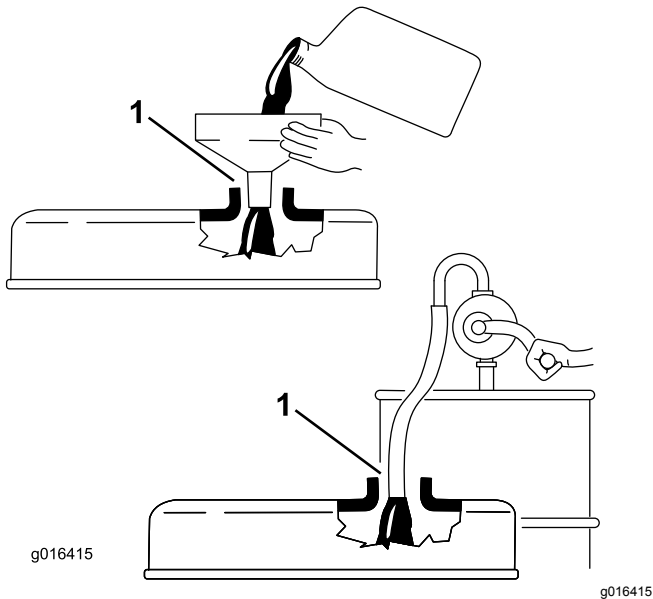

Figure 33
**Important:** Remove the dipstick while filling the engine with oil. When adding engine oil or filling oil, there *must be* clearance between the oil fill device and the oil fill hole in the valve cover as shown in Figure 33. This clearance is necessary to permit venting when filling, which prevents oil from overrunning into breather.